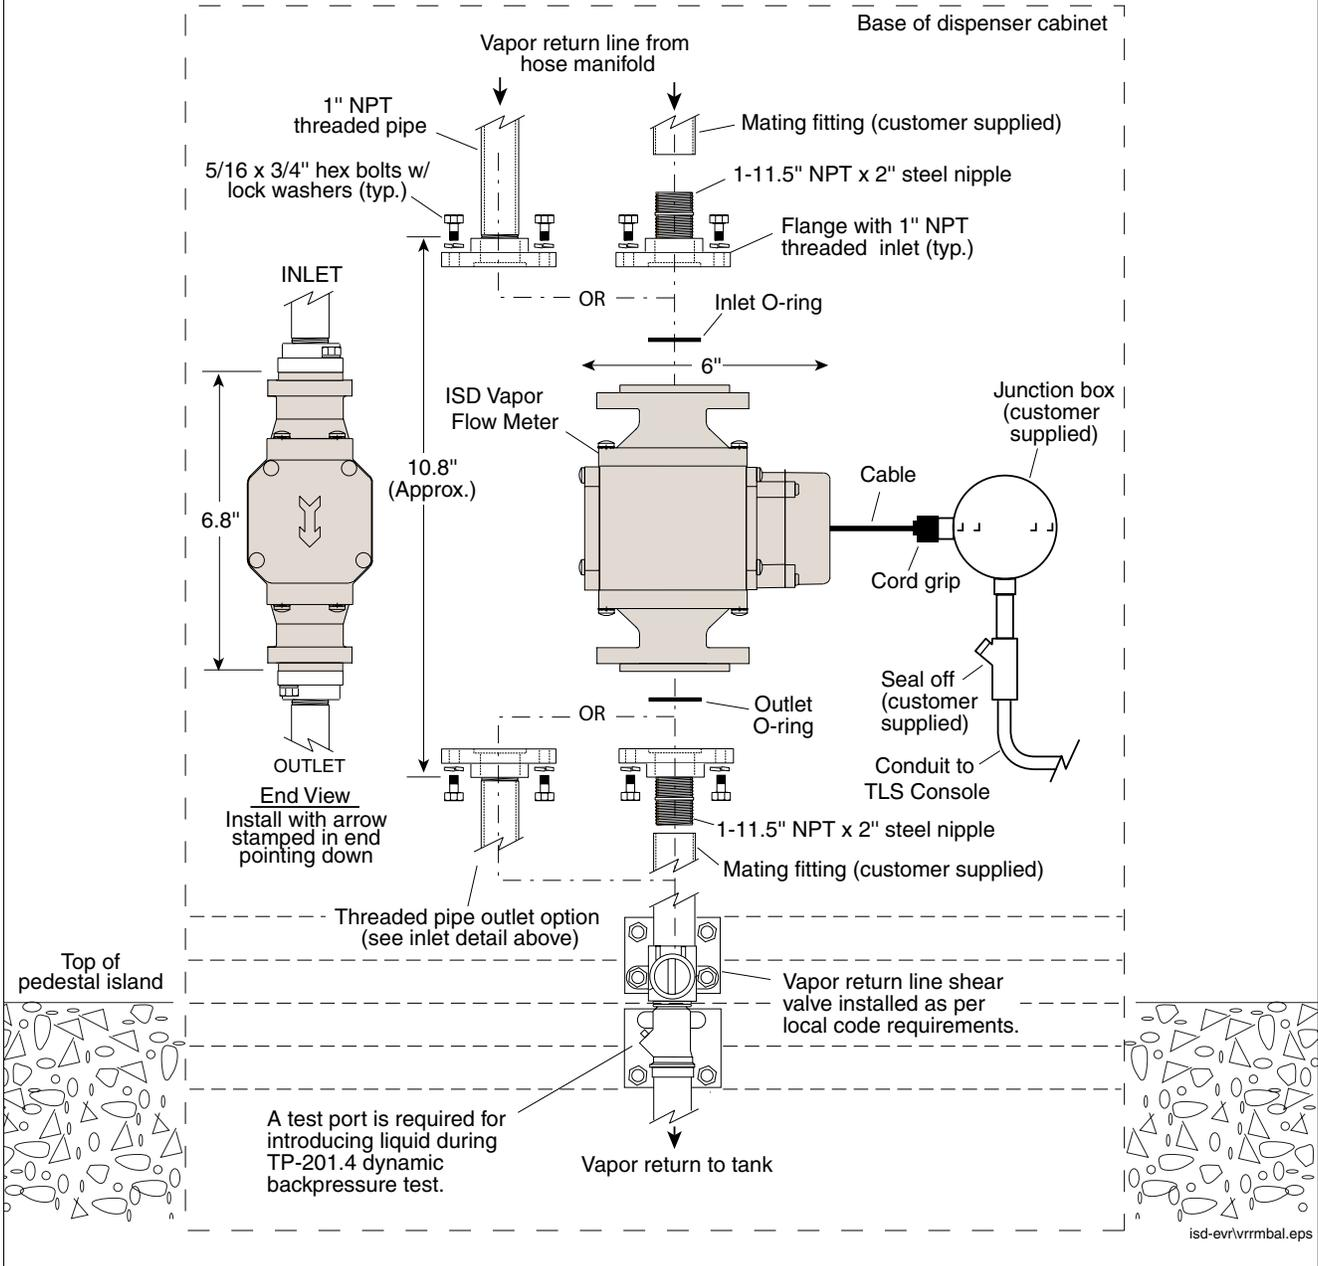

Figure 18-1. Example Vapor Flow Meter Installation Above Shear Valve
| Figure 18-1. Example Vapor Flow Meter Installation Above Shear Valve | 18-5 |
4. Disconnect the factory installed vapor return plumbing from the vapor shear valve (see Figure 18-1).